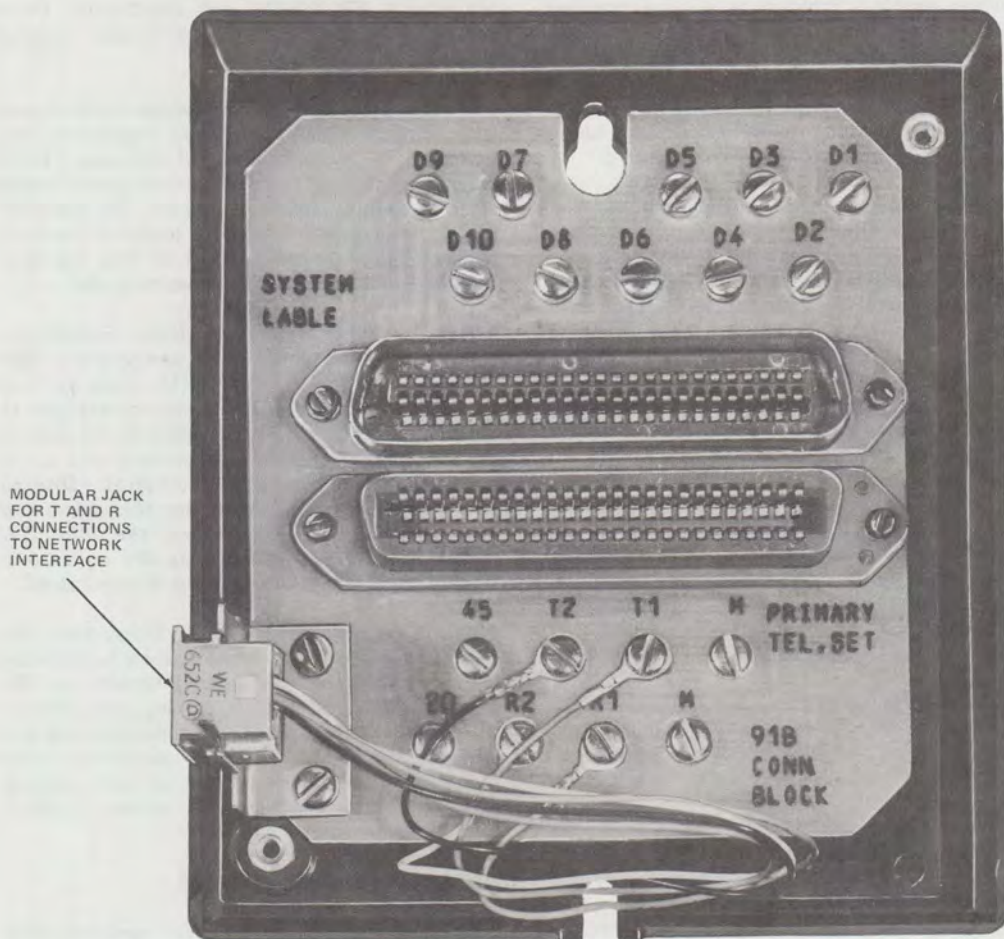

Fig. 10—91B Connecting Block
3.03 In all installations, regardless of the cabling method used, a primary station is connected into the system by plugging its 7-foot mounting cord into the associated 91B connecting block (Fig. 10). The 91B block also provides a modular jack for connection to the network tip and ring interface with a D4BU cord.